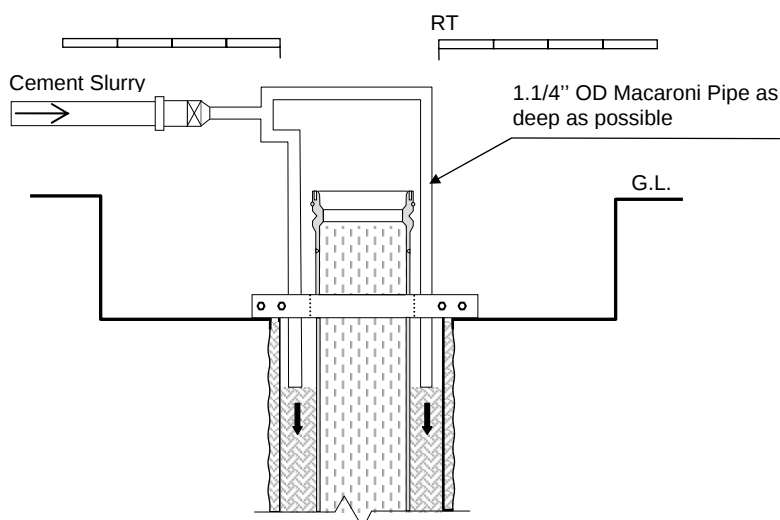

Figure 2-9: Cement Top Job with macaroni tubing
- Mix and pump 125 pcf neat cement as top job until annulus is full with cement Figure 2-9.